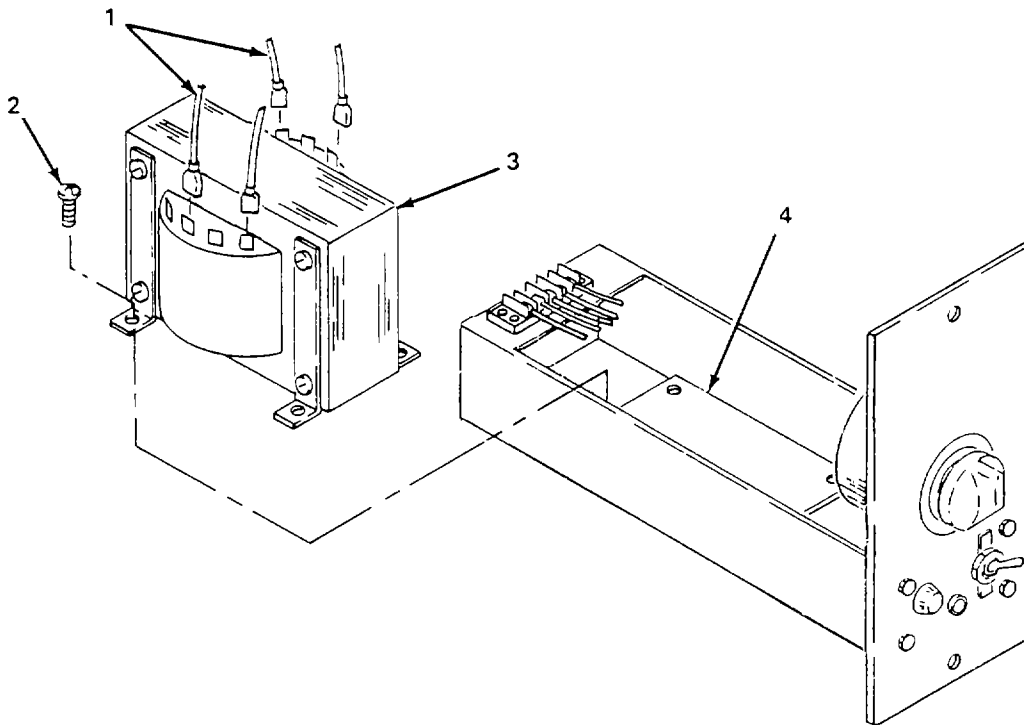

Figure 5-26. Single Light Power Supply (Outer Lock) Transformer, Replace.
(4) *Replace transformer.* (figure 5-26)